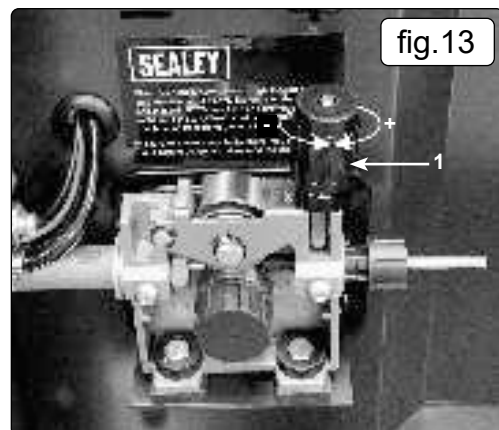

fig.13
- 4.13.4. Push down the pressure roller carrier onto the wire feed roller and hold it down. Lift up the locking/wire tension knob so that it enters the slot in the pressure roller carrier and snaps into the indent in its top surface. See fig.13. Rotate the tension knob to a medium setting i.e. between 2 and 3.
- 4.14.1. Adjust the wire tension by rotating the wire tension knob. Turn clockwise to increase the tension and anticlockwise to decrease the tension. See (1) in fig.13.